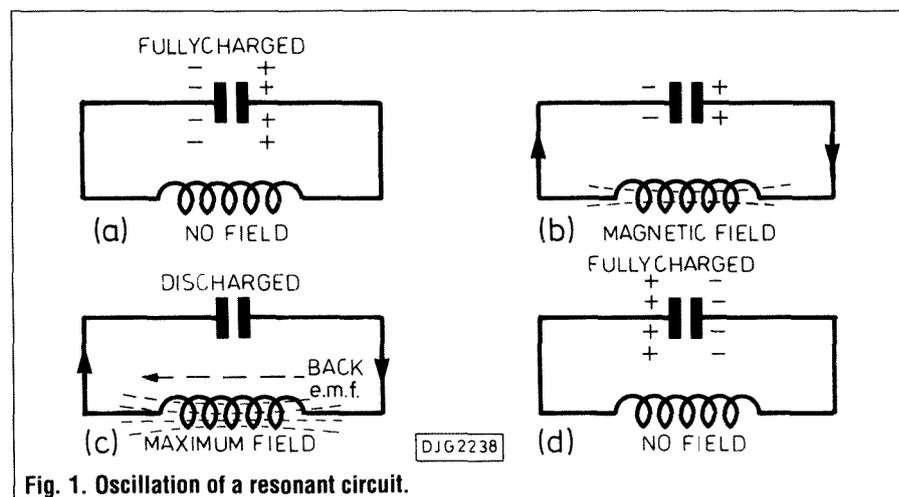

Fig. 1. Oscillation of a resonant circuit.
Looking at Fig. 1, suppose that it starts off with the capacitor fully charged, as in (1). At this instant no current is flowing in the circuit, so there is no magnetic field in the inductor. This has negligible resistance and the capacitor discharges through it causing a magnetic field to appear in the inductor coil (b). The capacitor eventually becomes fully discharged (c) and at this point the current should cease to flow and the magnetic field collapse. But, an inductor generates a back EMF to maintain any current through it which continues to flow in the same direction as before. This charges the capacitor but in the opposite direction. The capacitor eventually becomes fully charged again as the current dies away (d). This state lasts only an instant since the whole process repeats from (a) but with the current flowing in the opposite direction. The frequency at which this changeover or oscillation takes place is given by:
With present-day radio receivers in the medium and long wave bands, a rod of material, known as ferrite, is normally used. This is a composite material with a high magnetic permeability – if the rod is placed in a magnetic field, the magnetic lines of force tend to bunch together and pass through the rod, rather than pass by on either side of it. When radio waves arrive, their magnetic component is concentrated by the rod to produce a strong alternating magnetic field within it. For maximum effect the rod is placed so it is perpendicular to the arriving wave, making it directional. The rod has one or more coils wound round it and, as the field in the rod alternates in response to the radio waves, an alternating current is induced in the coil. The coil is connected as the inductor in an LC tuned circuit (Fig. 1) and as there is usually more than one coil, each can be used for receiving different wavebands.